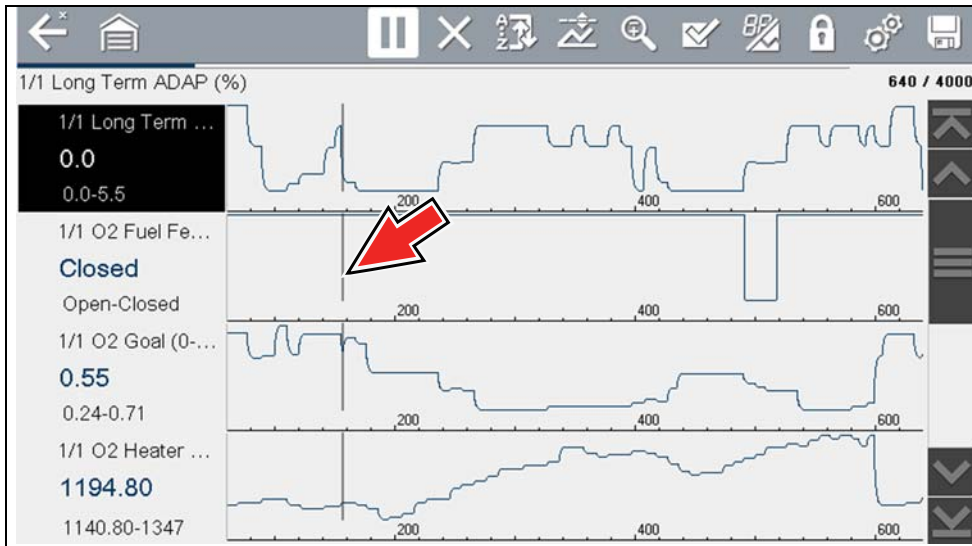

Figure 6-33
- Select the **Start** icon . The screen changes back to display data (Figure 6-33). A vertical gray cursor is displayed on all PIDs, indicating where the data was paused (Figure 6-33).